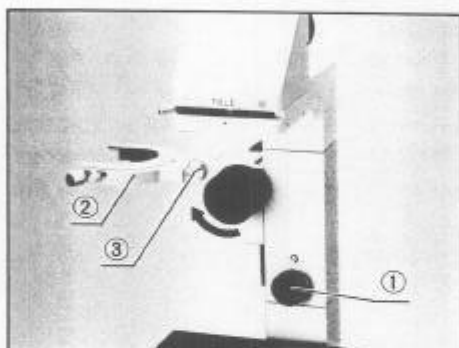
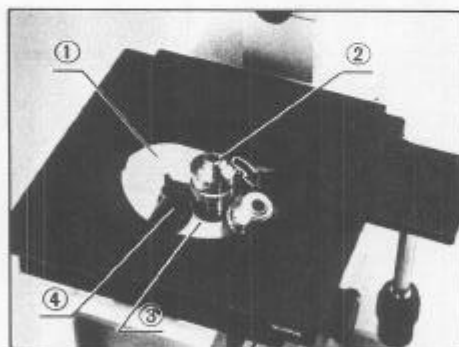

Fig. 3
Fig. 4
- 1) Loosen the condenser holder clamping knob ①, and flip up the condenser holder ②. (Fig. 3)
- ★ The tension of the condenser holder tilting motion can be adjusted by means of the clamping screw ③ which can be rotated with a coin.
- 2) Screw each objective ② into the nosepiece ③ through the stage insert mounting hole ① in the stage, lower power to higher power, in a clockwise direction. (Fig. 4)
- ★ Please note that the front lens of the objective in the inverted microscope faces upward, and is exposed to contamination more than the objective of an upright microscope. Therefore, if there are empty openings in the nosepiece, use the dust plugs ④ provided to prevent dust or debris from falling into the prisms, etc.